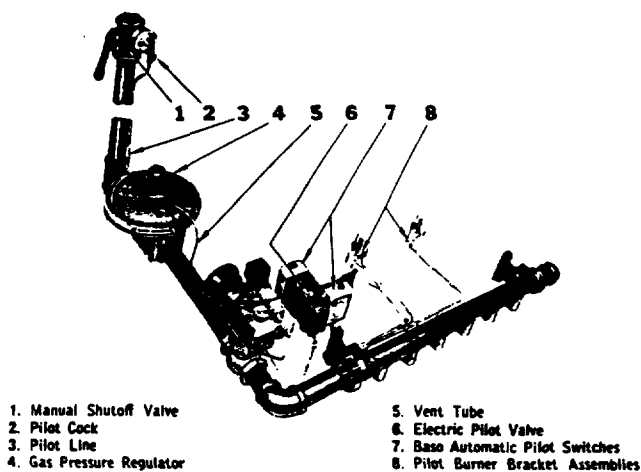

FIG. 21—Control Connections
1. Connect pilot line from manual shutoff valve assembly, see Fig. 15, to electric pilot valve. Then connect pilot line from electric pilot valve to pilot burners. Attach bracket containing electric pilot valve and BASO 850 switches to burner access door frame with one 10-24 x  $\frac{1}{2}$  screw and one  $\frac{3}{8}$ -16 x 1" brass hex head cap screw which holds burner access door frame in place. See Fig. 21.